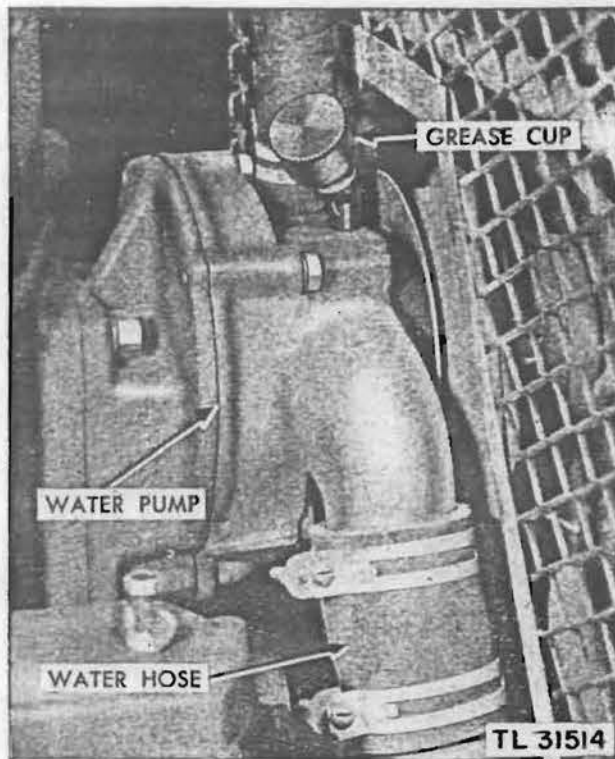

Figure 156. Engine water pump.
a. LOCATION. The water pump is located between the engine block and the radiator. (See fig. 156.)
(1) The water pump and fan blades for tightness of mounting. Check all assembly bolts.
(2) The water pump. Look for leaks and rust.
(3) The fan assembly. Look for cracks and crystallization. (Crystallization may be recognized by a number of tiny cracks that shine through the paint.)
turning the grease cup (fig. 156) on the water pump a few turns until it is snug, usually about two complete turns are needed during operations. If the cup is empty, refill with WB-2 lubricant (grease, general purpose No. 2). Do not use any other lubricant. Always clean the old grease out of the cup and fitting before putting in new grease.